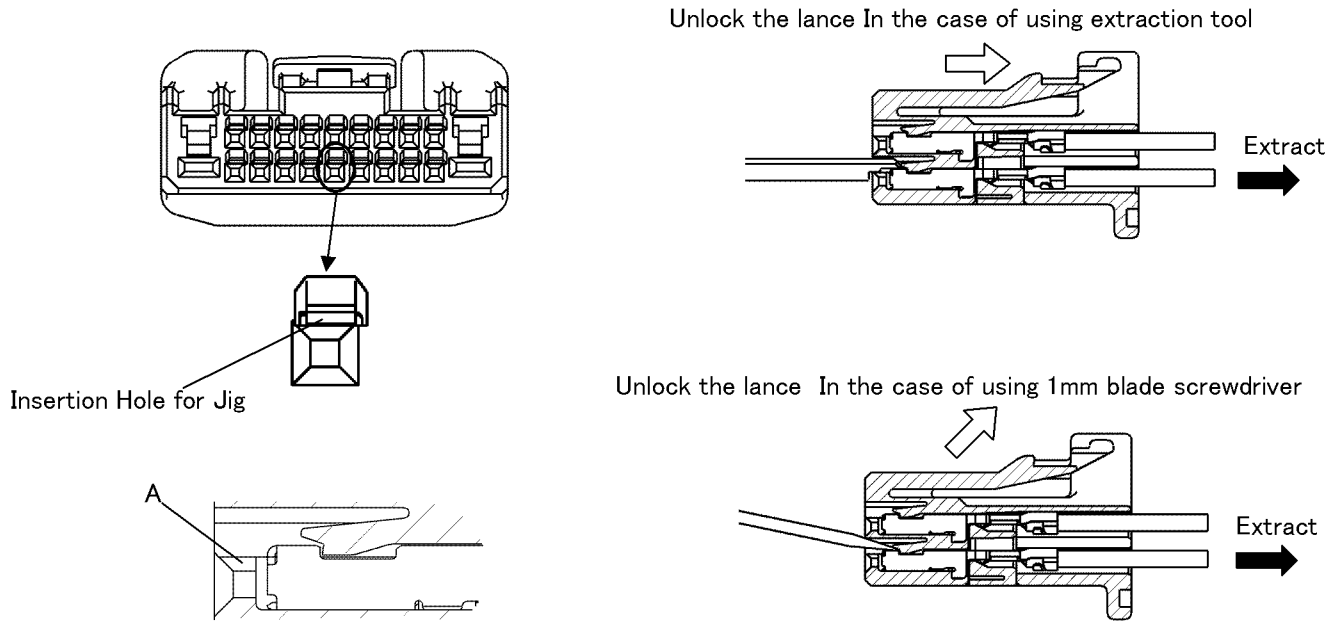

Fig.13
At this point, pull back the crimped wire lead and the contact can be removed. See Fig.13.
② In the case of using 1mm blade screwdriver, insert it into the proper hole and raise it gently just enough to unlock the lance. At this point, pull back the crimped wire lead and the contact can be removed. See Fig.13